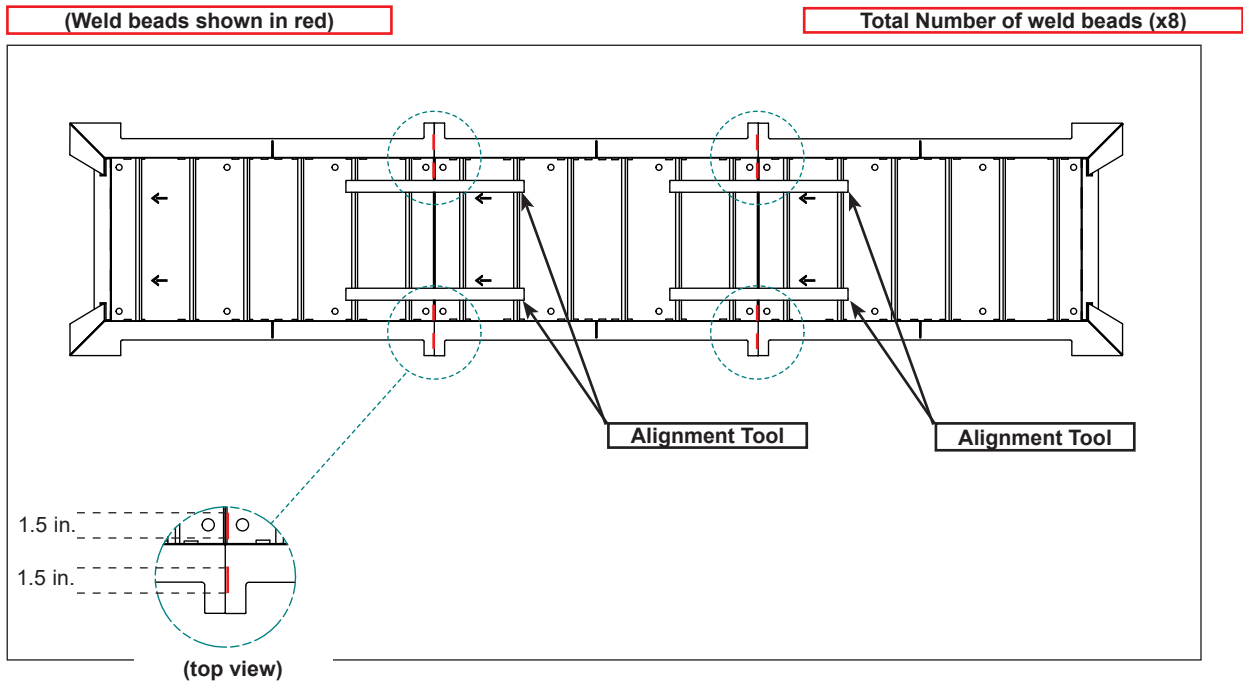

Figure 23
1. Mock up the ground plates and the distance between each section, using the alignment tools provided. See **figure 23**.
5. Weld the restraining plate sections together using a stick welding machine. See **figure 23** on page 24.
- Requires four (4) weld beads between each restraining plate: Two (2) between the body of the plates and two (2) between the countersunk tabs of the plates.